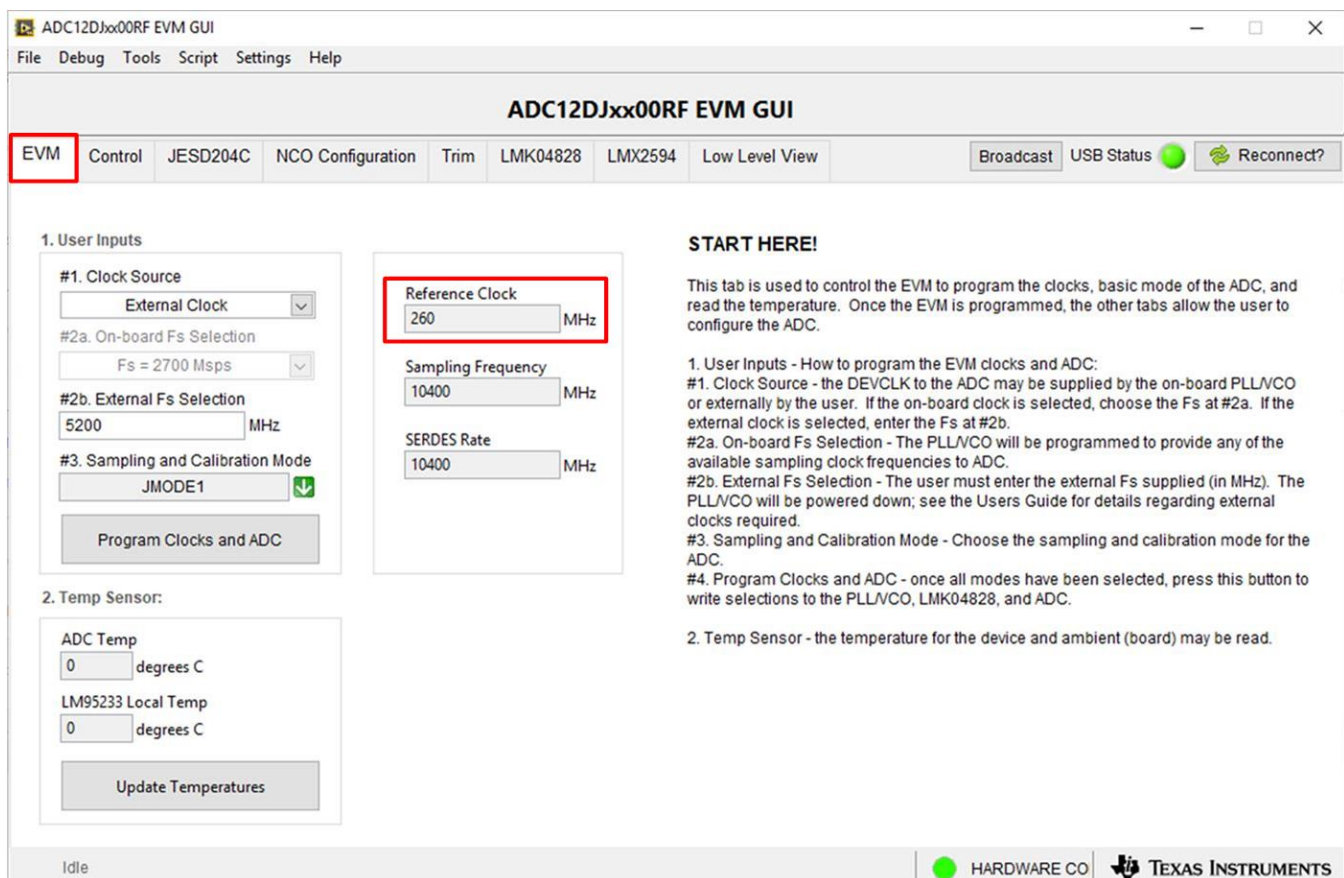
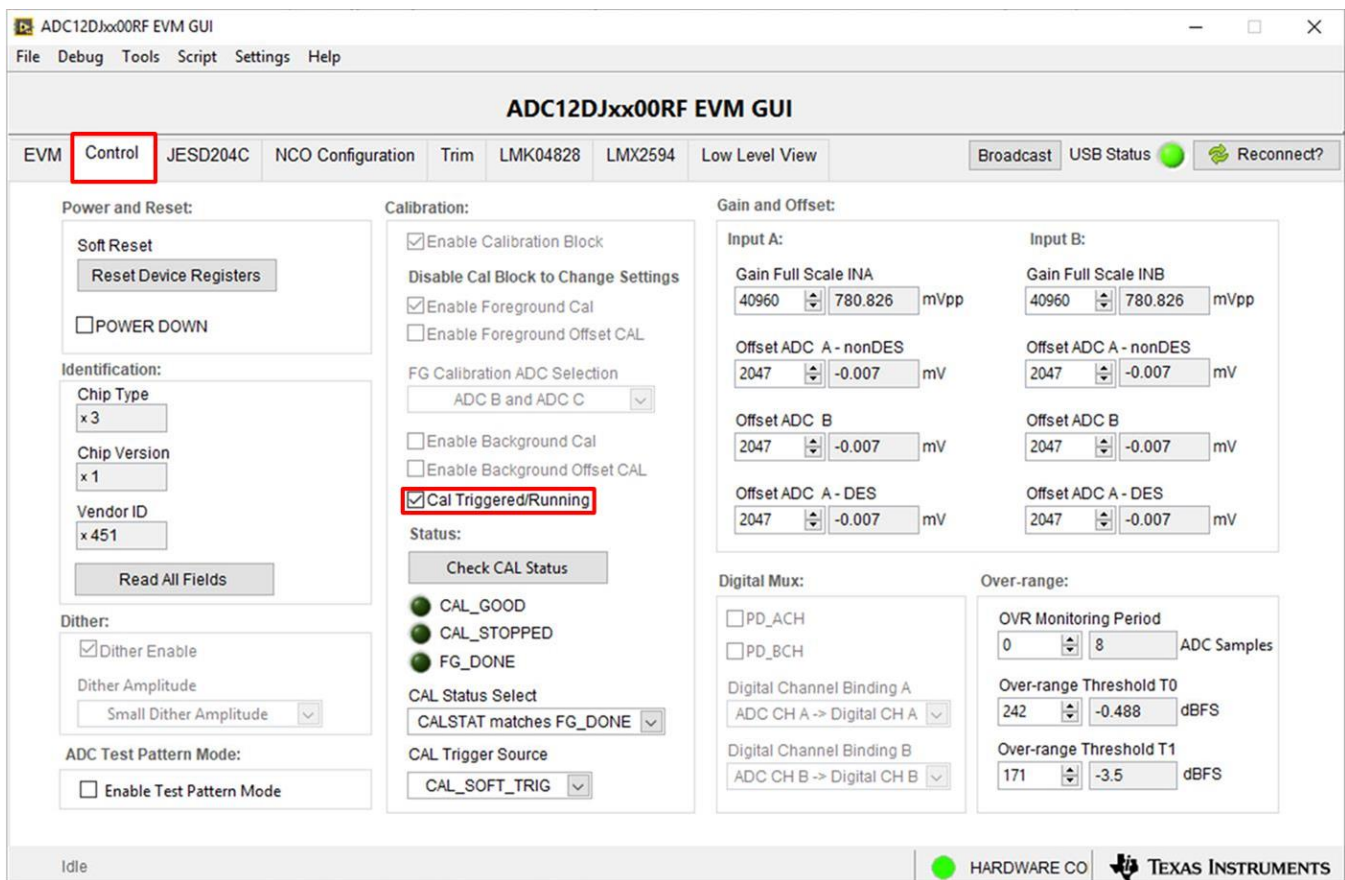

Figure 3-2. Configuration GUI EVM Tab
Figure 3-3. Configuration GUI ADC Control
1. The Reference clock frequency can be obtained from the ADC12DJ5200RFEVM GUI. Once the ADC12DJ5200EVM GUI is configured to the desired JMODE mode and clock rate. The Reference Clock frequency required by the EVM is displayed on first page of the GUI shown with red square in Figure 3-2
Figure 3-2 and Figure 3-3 show the GUI open to the *EVM* tab and *Control* tab respectively. Tabs at the top of the panel organize the configuration into device and EVM features with user-friendly controls and a low-level tab for directly configuring the registers. The EVM has three configurable devices, namely the ADC12DJ5200RF, LMK04828, LMK61E2, and LMX2594. The register map for each device is provided in the device data sheet ([ADC12DJ5200RF 10.4-GSPS Single Channel or 5.2-GSPS Dual Channel, 12-bit, RF, LMK0482xB Ultra Low-Noise JESD204B Cmplnt Clk Jitter Cleaner w/ Dual Loop PLLs](#), and LMX2594 15-GHz Wideband PLLatinum™ RF Synthesizer, respectively).